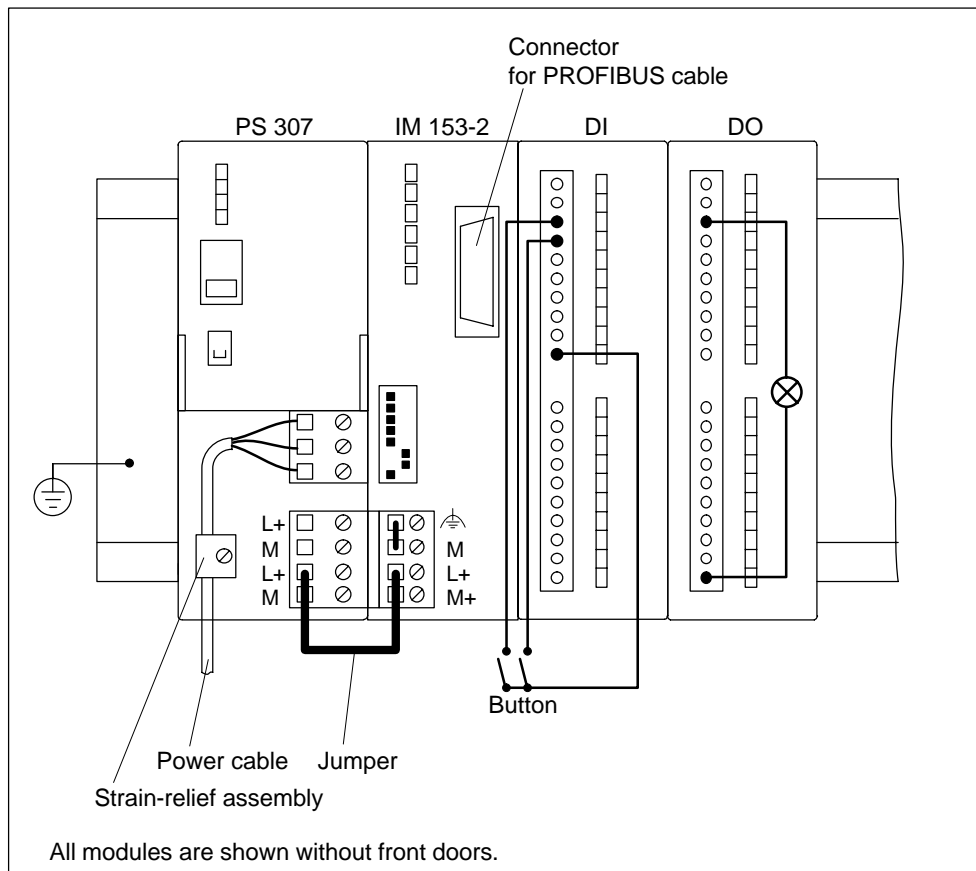

Figure 2-3 Wiring of the ET 200M
3. Strip the power supply cable. If necessary, attach wire end ferrules (in the case of multi-conductor cables). Then connect to the PS 307 (see Figure 2-3).
5. Insert the jumper into the PS 307 and IM 153-2, and screw it tight (see Figure 2-3).
Terminal 10: free cable ends of button (see Figure 2-3)
Terminals 3 and 20: indicator lamp (see Figure 2-3)